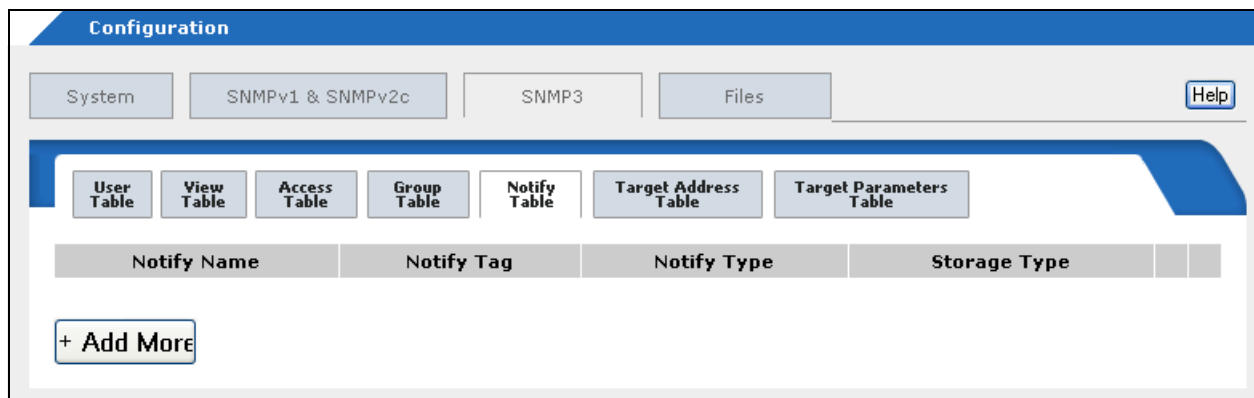

Figure 133. SNMPv3 Notify Table Tab
- ❑ :Click the **Configuration** button in the menu bar and then select the **SNMPv3** tab and the **Notify Table** tab. The tab is shown in Figure 133 on page 304.